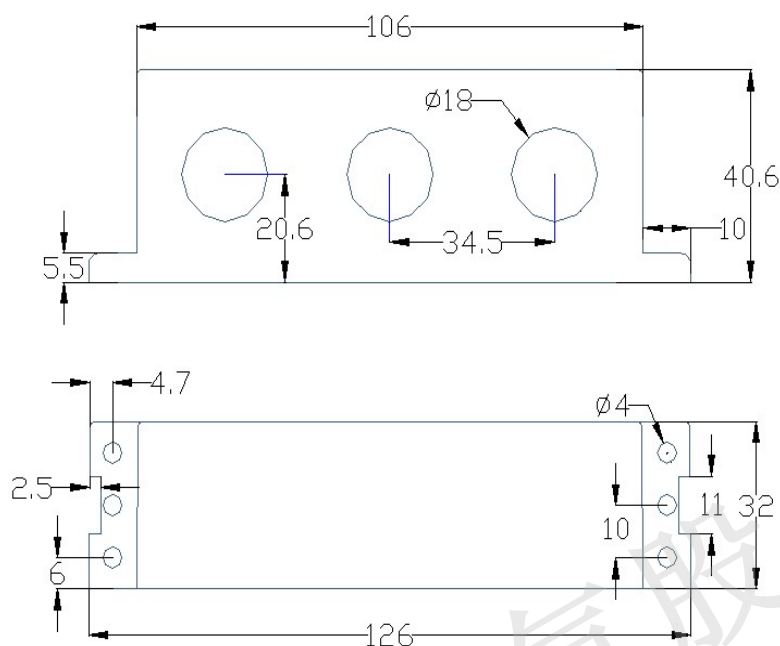

FIG. 9 External dimensions of current transformers with specifications below 100A
5.3.1 The external dimensions of current transformers of 100A and the following specifications are shown in FIG. 9 (unit: mm) ::